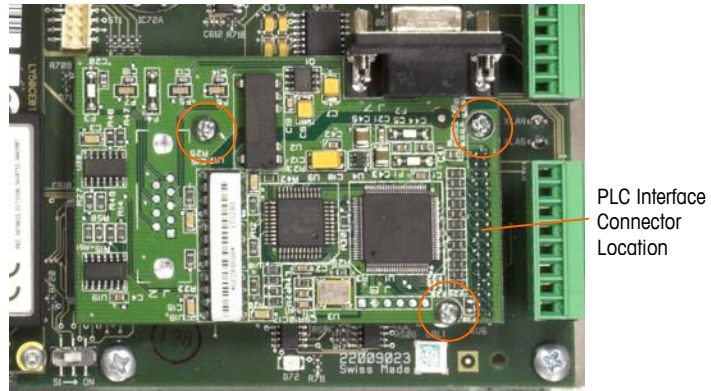

Figure 3-65: PLC Interface Module Installed on Main PCB
To remove a PLC interface module from the main PCB, loosen and remove the three screws (indicated in Figure 3-65) holding it in place, and carefully lift the module off its connector.
3. Install the three screws indicated in Figure 3-65.